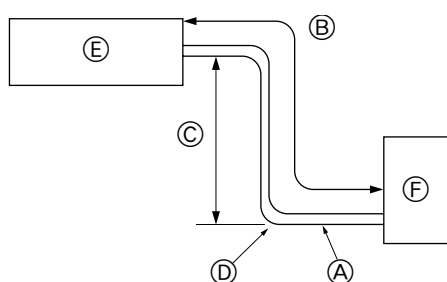

Fig. 2-1
- ① Flange joint ... ×1
- ② Packing ×1
2.1. Refrigerant pipe (Fig. 2-1)